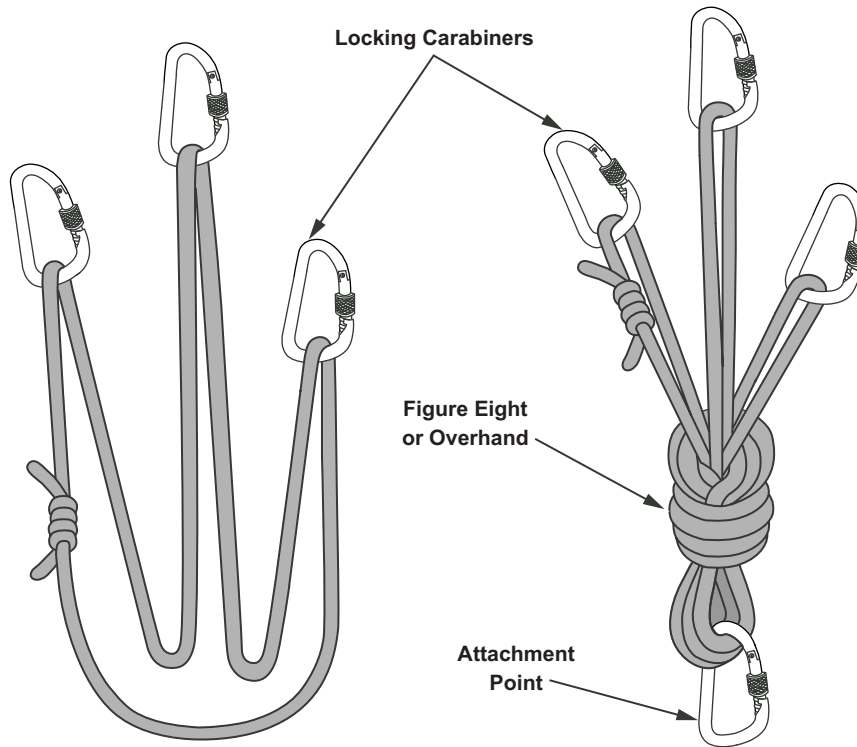

Figure 4-5. Pre-equalized Cordelette.
- This method provides three pre-equalized attachment points and uses none of the rappel rope to construct the rigging. It can be used with or without the rescue rope setup. The anchor points can be in any configuration or distance apart. The pre-equalizing cordelette can be used with the rappel rope guided from the deck through the overhead rigging. Rigging the pre-equalized cordelette is as follows (see fig. 4-5):